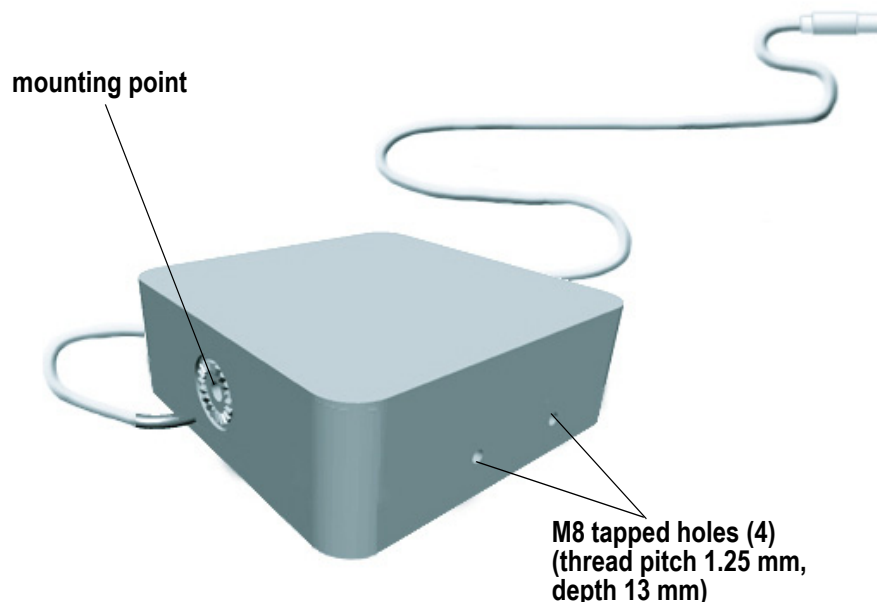
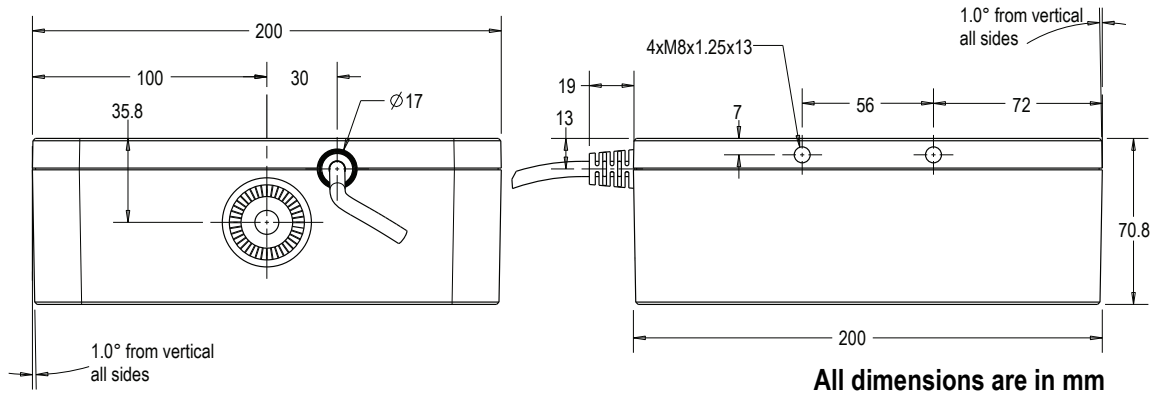

Figure 3-4 Planar Field Generator - Mounting Options
Figure 3-5 Planar Field Generator - Mounting Details
3. Place or mount the Field Generator on a rigid support system that can carry the full weight of the Field Generator and the Field Generator cable (2.6 kg). The support system must also be designed to minimize vibrations, as vibrations may introduce measurement errors. The Field Generator may be mounted in two ways (refer to Figure 3-4 and Figure 3-5):
Note The drawing shown in Figure 3-5 is available for download from the NDI Support Site.